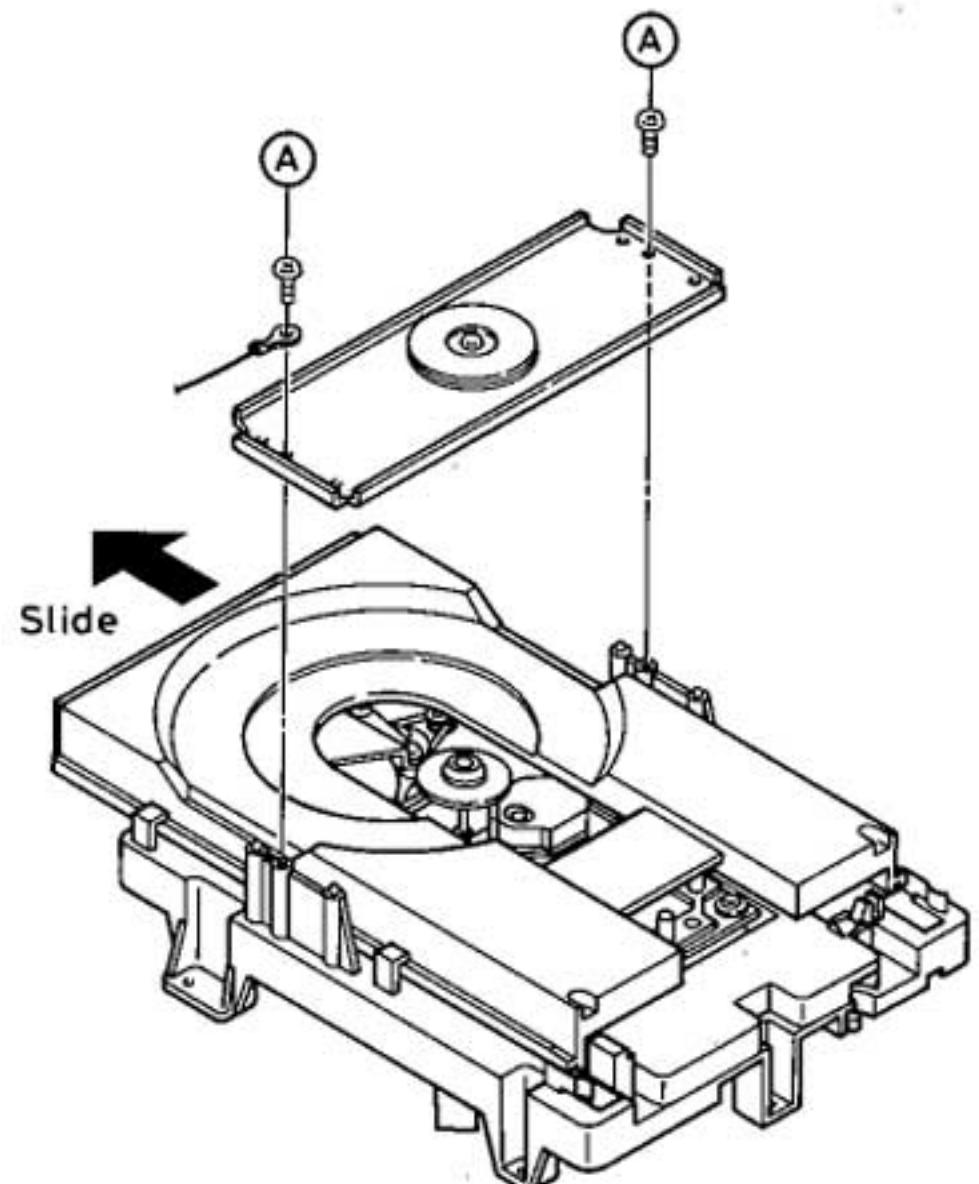

Figure 7
2. Remove two screws (A) holding the clamper base. (See Figure 7)